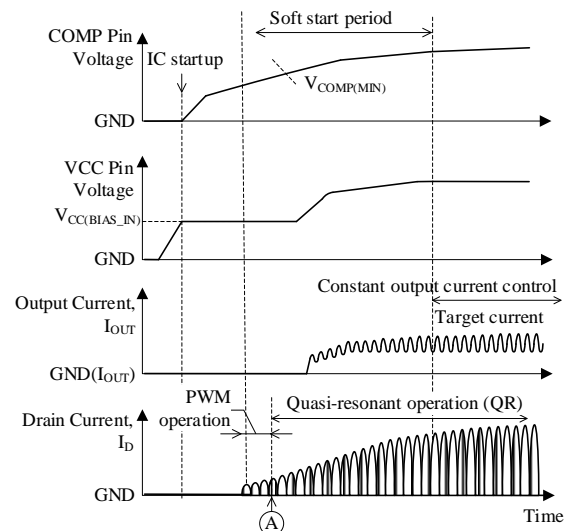
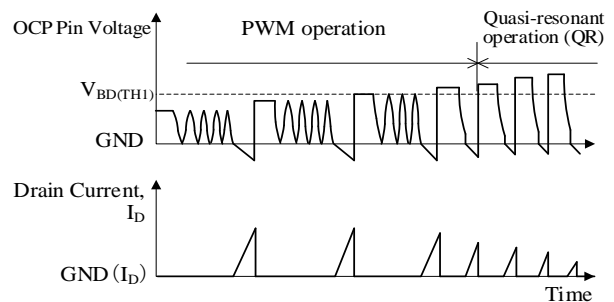

Figure 9-4. Operational Waveforms at Startup
Figure 9-5. OCP Pin Voltage Waveforms on Expanded Time Scale (Point A)
Figure 9-4 shows the operation waveforms at startup. The soft start function of the IC is activated at power-on. The soft start function reduces the voltage and current stress of the power MOSFET and the secondary rectifier diode at power-on. The soft start operation period is the period from when the COMP pin voltage reaches $V_{COMP(MIN)} = 0.85\text{ V}$ to when the output current is controlled to be constant. During that period, the output
When the auxiliary winding voltage rises along with the output voltage, the positive voltage on the OCP pin also rises. When the OCP pin voltage reaches $V_{BD(TH1)} = 0.24\text{ V}$ or more, the IC shifts to the quasi-resonant operation (QR). Figure 9-5 shows the OCP pin voltage waveforms on an expanded time scale when the IC shifts to quasi-resonant operation mode from PWM operation (point A in Figure 9-4).